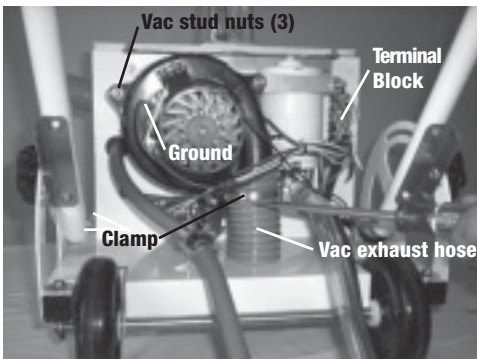

Figure 9
3. Loosen clamp on vacuum exhaust hose (fig. 9).
4. Remove three vacuum stud nuts (fig. 9).
5. Remove ground terminal from vacuum motor (fig. 9).
6. Disconnect vacuum motor's wires at the terminal block (fig. 9).